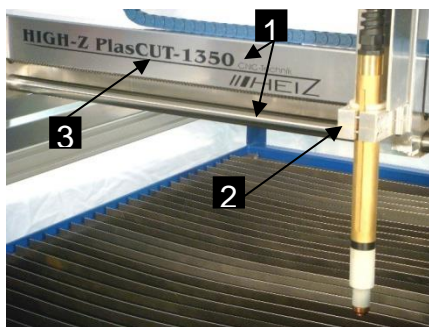

Figure 10a: Y-Carriage
- The two linear guides (Fig. 10a / 1) and the (recirculating) ball screw located on the Y-bridge (Fig. 10a / 3) and represent the Y-axis. Along the Y-Bridge is the tool holder (Fig. 10a / 2) which can be moved with a suitable tool (43H7 holder)